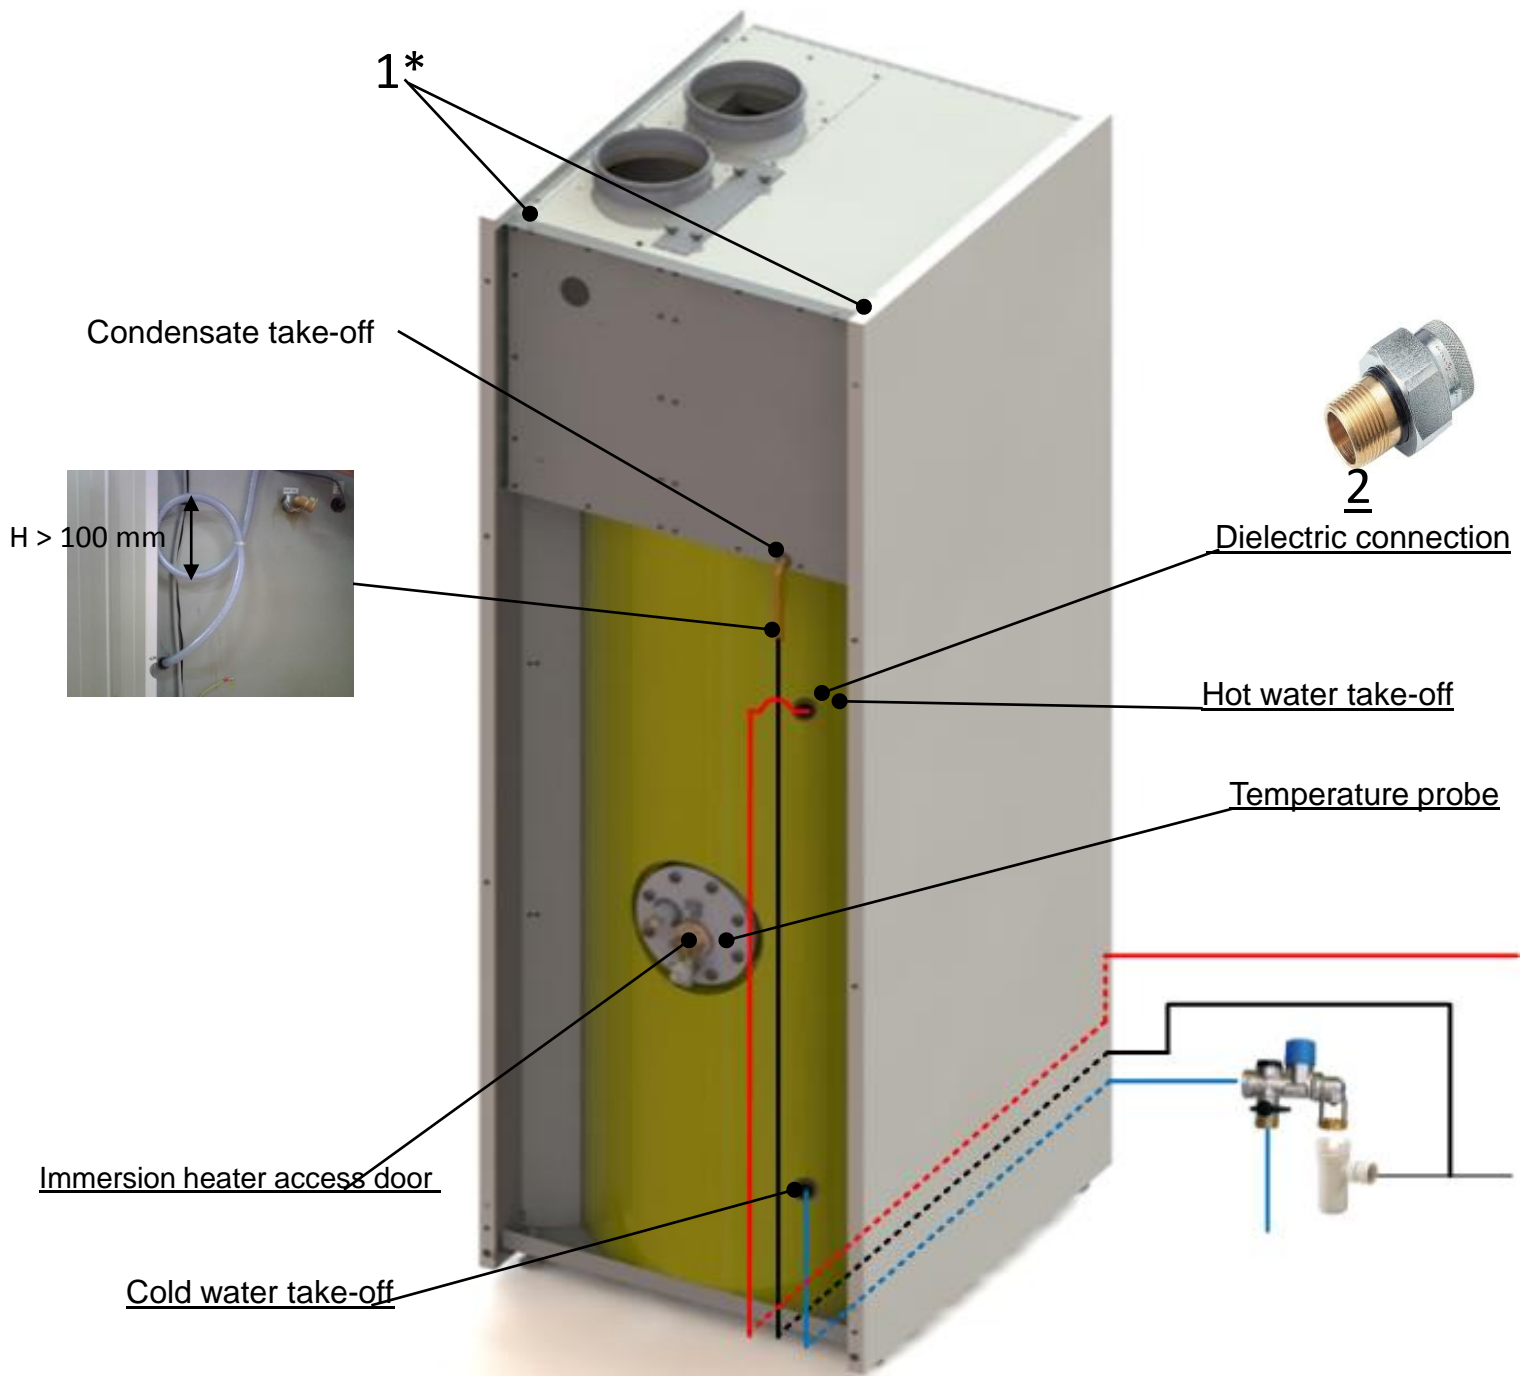

Fig. 7: Hydraulic connection CETHEO
- Make a siphon loop with the flexible tube as shown in figure 7.